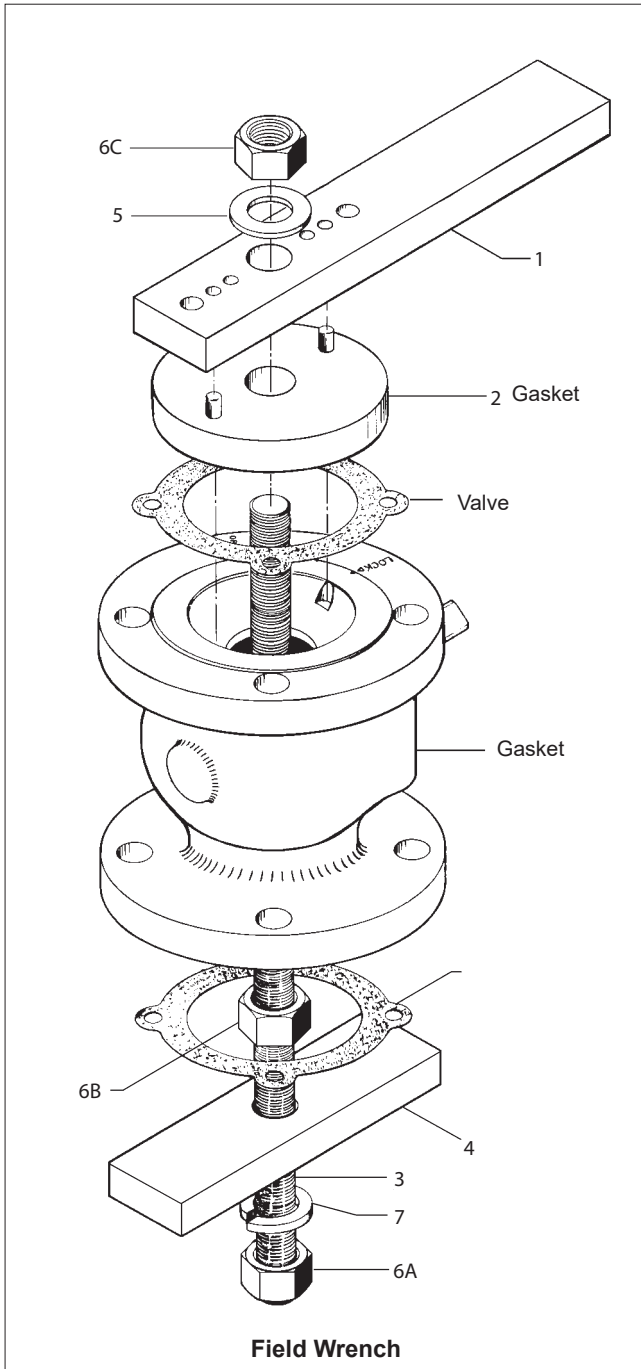
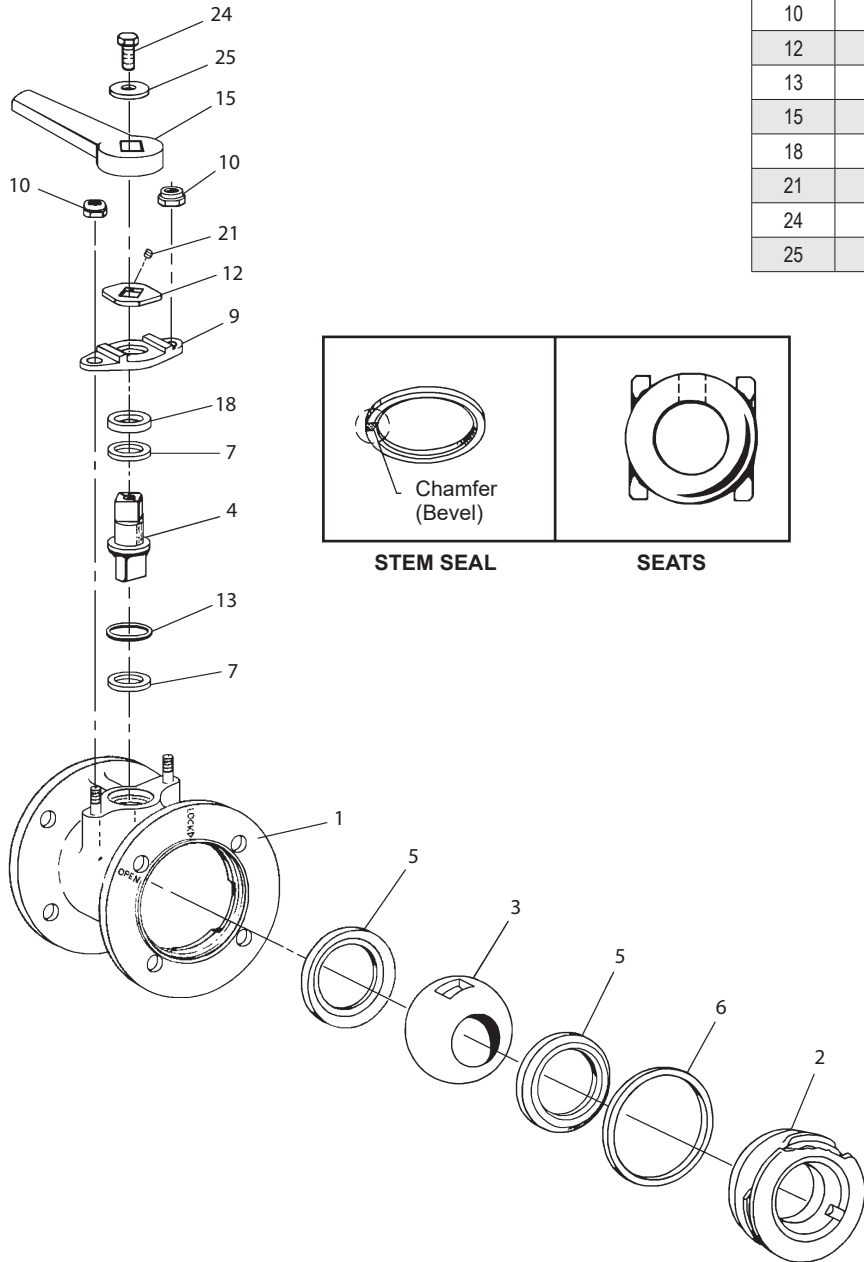

Figure 2
Figure 3
- A. Thread a hex nut (6A) onto the rod (3) as shown in **(Figure 2)**.
- B. Slide the lockwasher (7) and base (4) down the rod and securely fasten with another hex nut (6B).
- D. Place the other gasket on the insert (2) (**Figure 3**) and slide the second plate (2) over the rod engaging the dowel pins with the wrenching grooves in the insert.
- Slide the first valve seat (5) into the body (1) to below the stem opening, and tilt it into place so that the proper surface will be adjacent to the ball (3) (**see seat detail in Figure 3**).
- Place the ball into the valve in the open position, and adjust so that the slot faces the stem opening. Insert the stem (4) as a temporary means of holding the ball, and turn the ball to the closed position.
- Insert the second seat (5) into the body insert (2) so that the proper surface will be adjacent to the ball. Insert the body seal (6) with the chamfer on the I.D. away from the ball. Turn the ball to the fully open position.
- Wipe a liberal amount of lubricant on the body seal and locking grooves and tabs of the body and insert (2).
- Remove the stem. Insert one stem seal (7) into the body with the chamfer on the I.D. facing down the emergency stem seal (13) on top of this seal. Lubricate the stem with a compatible lubricant and insert it. The stem should be tapped into place gently to avoid cutting the seal. The slotted top of the stem will give a visual indication of ball position.
9. Slide the second stem seal (7) and compression ring (18) onto the stem. The chamfer on the I.D. of this stem seal should also be facing down.
10. Fit the bonnet plate (9) over the stem and bonnet studs.
11. Tighten the nuts (10) against the bonnet evenly and alternately until the stem seals are seated. Turn each another 3/4 of a turn to insure proper stem seal compression.